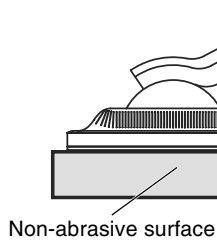

Figure R.2
3. Place monitor face down on a non-abrasive surface (**Figure R.2**).